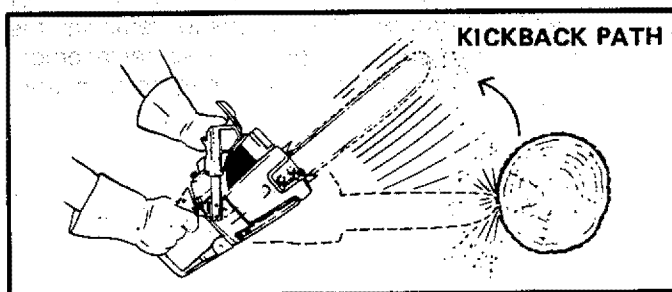

Figure 15
- b. Never let the moving chain contact any object at the tip of the guide bar. Figure 15.